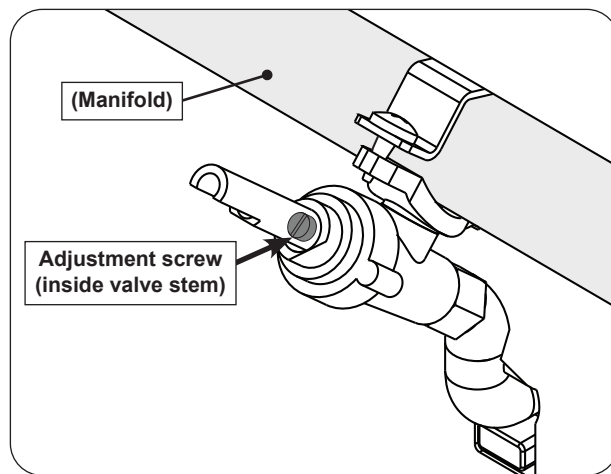

Fig. 37-1 Valve adjustment screw location
3. Locate the FLATHEAD adjustment screw found inside the valve stem (see Fig. 37-1).